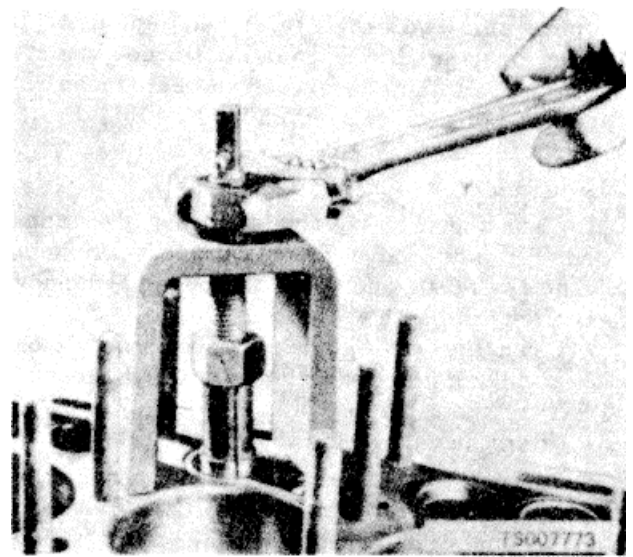

Figure 9-9. Pulling Valve Seat Insert.
g. Check the exhaust seat inserts for cracks or loose mounting. Pull out faulty valve seat inserts (fig. 9-9). Replace valve seats with new 0.010 inch oversized valve seats. Counterbore the valve seats to a diameter of 1.1255 to 1.1245 inches. This will provide the required press fit. Counterbore deeply enough so that the boring tool will clean up the bottom of the bore to assure proper heat conduction from the valve insert. Chill the valve seats in dry ice for 20 minutes. Install the valve seat in place with a piloted driver using an arbor press or by applying light blows with a hammer until the valve seat is